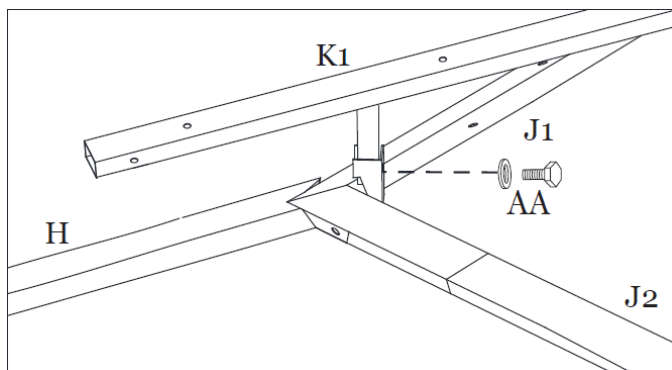

Figure 9-1
Step 9A: Secure the Roof Vent Frame to the Main Roof Center Frame by inserting the Roof Vent Corner Supports (K1) into the post on the Short Connector (J1) of the Main Roof Center Frame and attach using Bolts (AA). See Figure 9-1.